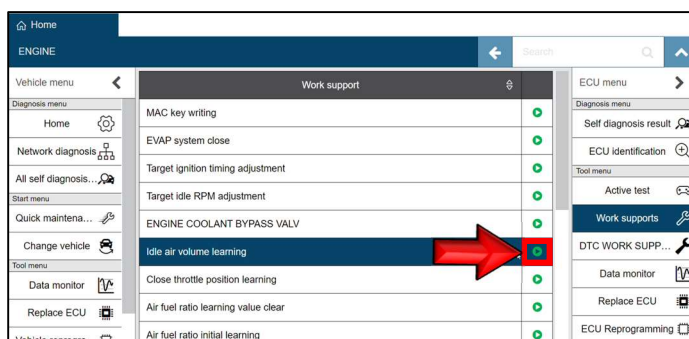

Figure 27
28. Locate and select the “Play” button for **Idle Air Volume Learning**. (Figure 27)